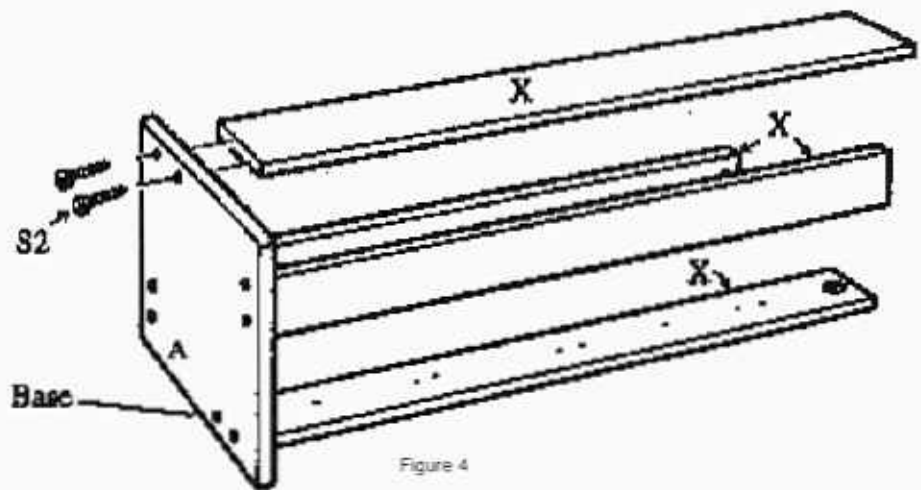

Figure 4
Attach the (4) side panels "X" onto the base panel using (8) screws "S2"(Figure 4). **MAKE SURE THE SHELF PIN PILOT HOLES ARE FACING INWARD ON ALL SIDE PANELS "X".**